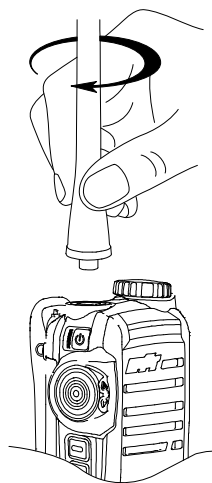

Figure 9
- ① Align the threaded end of the antenna with the radio's large-size threaded hole.
- ② Turn the antenna clockwise to fasten it. See Figure 9.